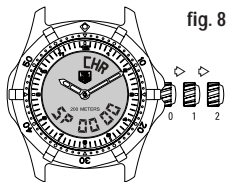

fig. 8
6.2. Measurement of a total time with intermediate time readings (split or flyback) (fig. 8)